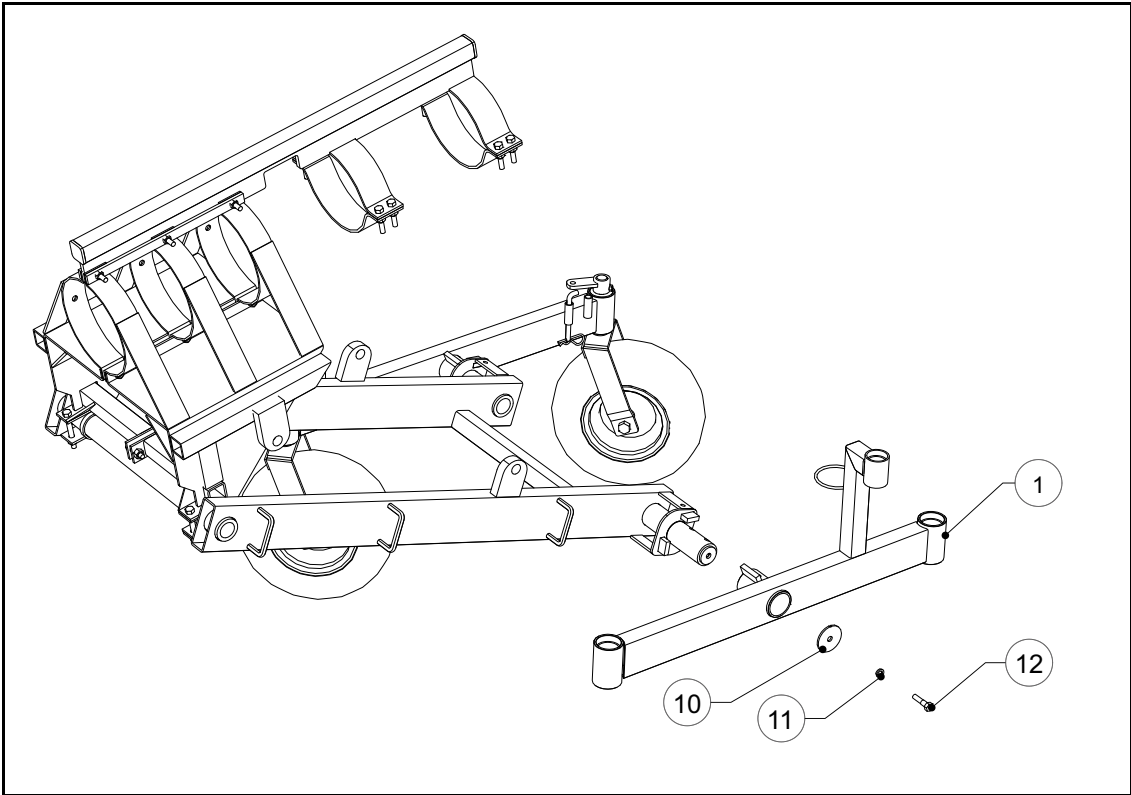

Figure 3.8 Attaching Walking Beam (Steering) to the Cam-Lift
1. Attach the walking beam (1) to the cam-lift assembly in the orientation shown in Figure 3.8. Secure with a 1/2" x 2" bolt (12), 1/2" lock washer (11), and axle end cap (10).